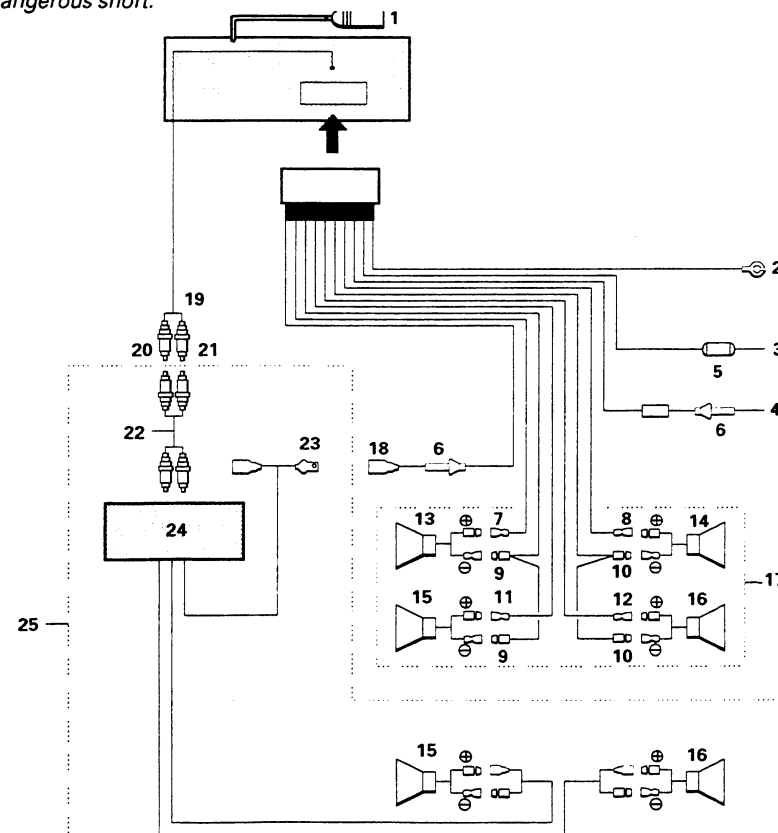

Fig. 15
- Do not leave an ejected disc in the insertion slot for extended periods since direct sunlight can cause warping. Always return discs to their cases and store in areas not exposed to direct sunlight. (Fig. 15)
Discs should not be left like this for extended periods. Fig. 15
(Fig. 15)